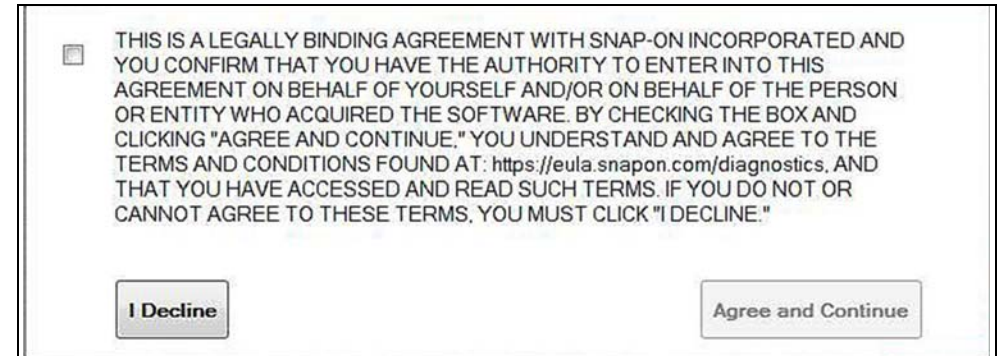
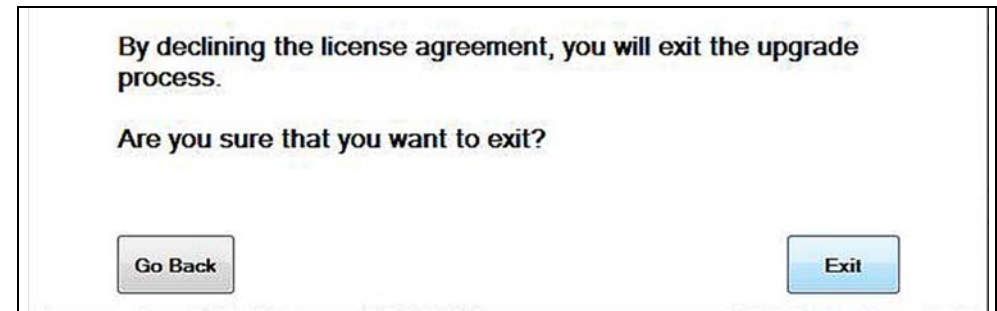

Figure 16-13 Typical EULA acceptance screen
Figure 16-14 Typical EULA acceptance screen
**To Accept:** at the screen prompt (Figure 16-13) click the checkbox on the left side of the window, and then select **Agree and Continue**. The software will be installed automatically.
Figure 16-13 below represents a typical EULA acceptance agreement screen.
**To Decline:** at the screen prompt (Figure 16-13) select **I Decline**. A confirmation message is displayed providing options to Go Back or Exit the software installation (Figure 16-14).